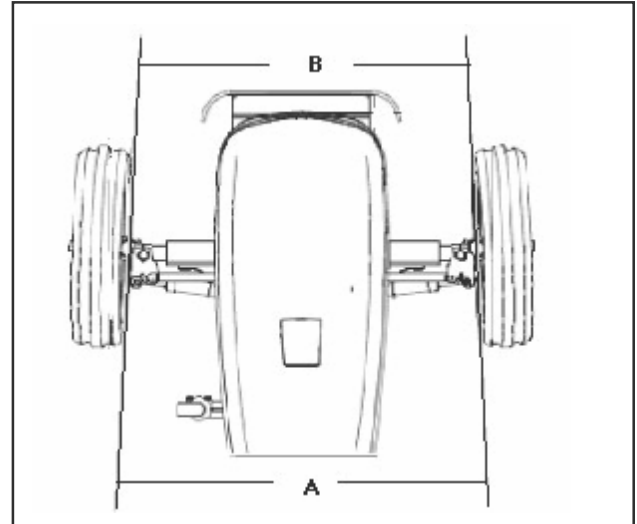

Fig. 2
2. To check the toe-in, see illustrations given in Fig. 2. Distance A must be 0.039 - 0.196 inch (1–5 mm), greater than the distance B, measured on the center line of the axle at the wheel rim.